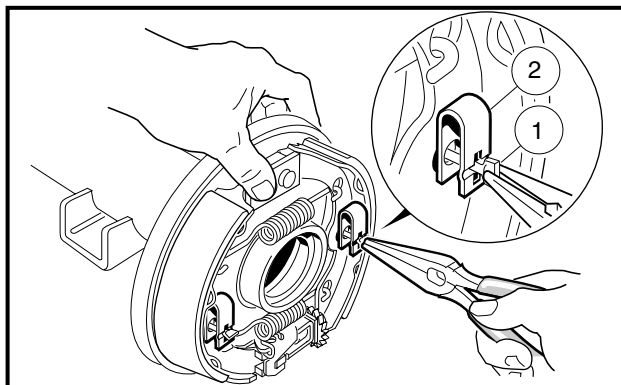

Figure 6-5 Rotate Clip Retainer
- Using needle nose pliers, rotate the clip retainer pin (1) 90° to remove the shoe retainer clip (2) on each shoe (Figure 6-5, Page 6-5).